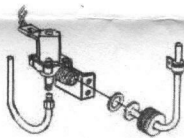

Figure 3
5. Disconnect water supply line and icemaker feed line from valve. Drain the water from both lines. (See Figure 3)